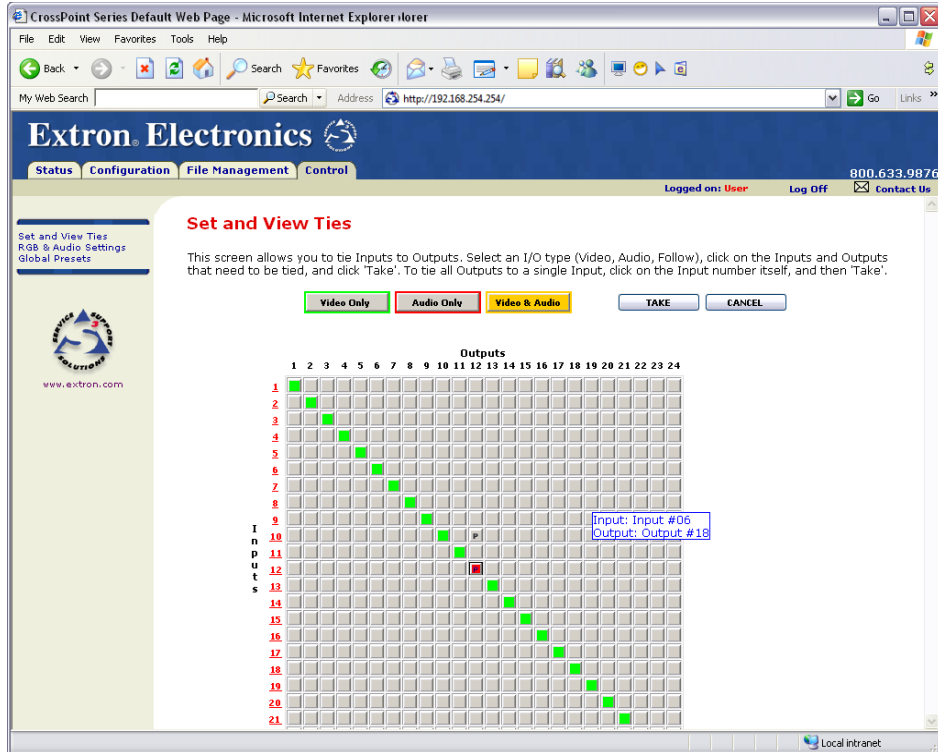

Figure 94. User Control Ties Page
You can create ties on the Set and View Ties page (see figure 94). Access the Set and View Ties page by clicking the **Control** tab.
- If you lose track of the input and output associated with a specific button, let the mouse rest over one of the tie buttons for a moment. A field pops up (as shown on **figure 94** on the previous page) that identifies the input and output for that button.